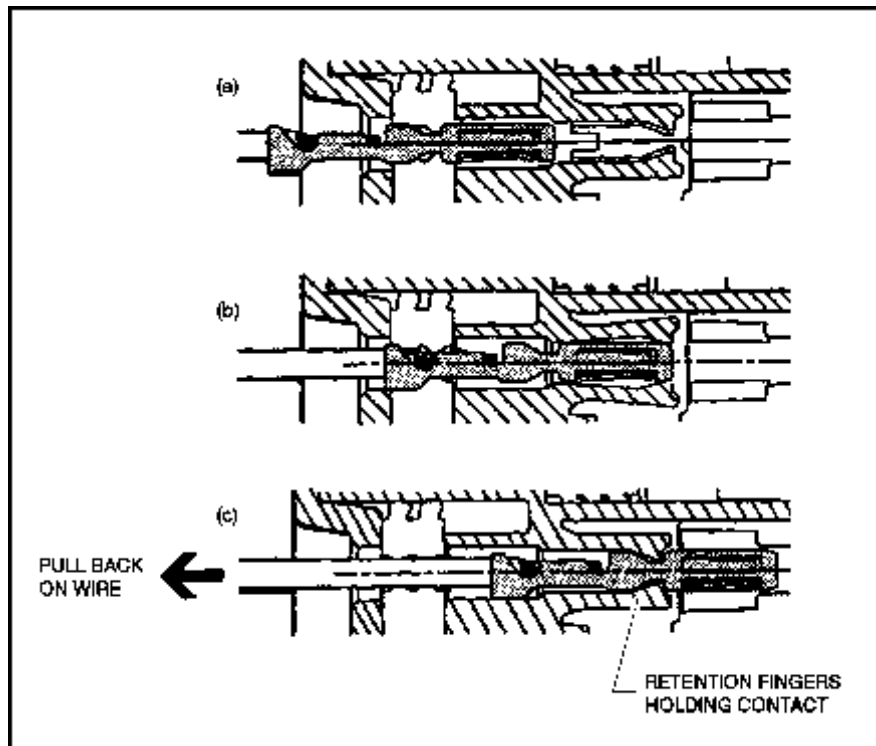

Figure 7-7. Connector Assembly Figure 2
1. Push contact straight into appropriate circuit cavity as far as it will go (See Figure 7-7.).
2. Pull contact wire with a force of 1 or 2 lbs. to be sure retention fingers hold contact (See Figure 7-7.).